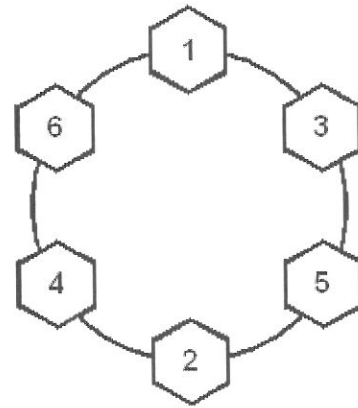

Figure 4-4. Wheel Nut Tightening Sequence
- For correct wheel nut tightening sequence, Refer to Figure 4-4.